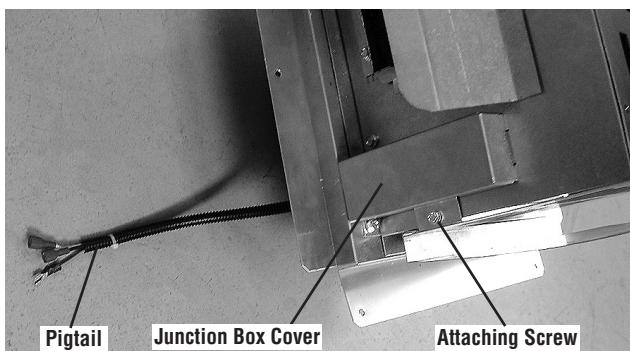

Figure 28 - Bottom of Termination
- Locate a locally procured electrical junction box within reach of the termination wiring pigtail (refer to **Figure 28 on Page 23**) and route the pigtail to the junction box as the termination is installed.
- Remove the junction box cover from the termination by removing the attaching screw (refer to **Figure 28**).
- Loosen the strain relief on the termination shown in **Figure 28**. Pull the pigtail in and shorten it to fit within the junction box cover.